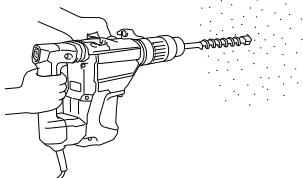

Fig. 10
1. How to drill holes (Fig. 10)